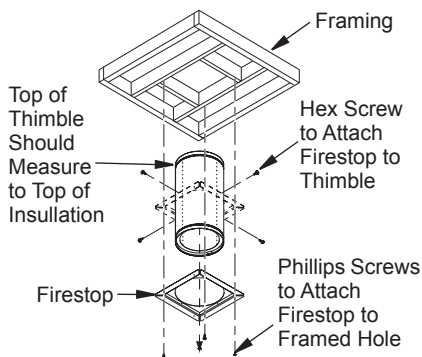

Figure 21 - Installing Thimble with Firestop
- Attach thimble into firestop plate using 4 hex screws provided (see Figure 21).